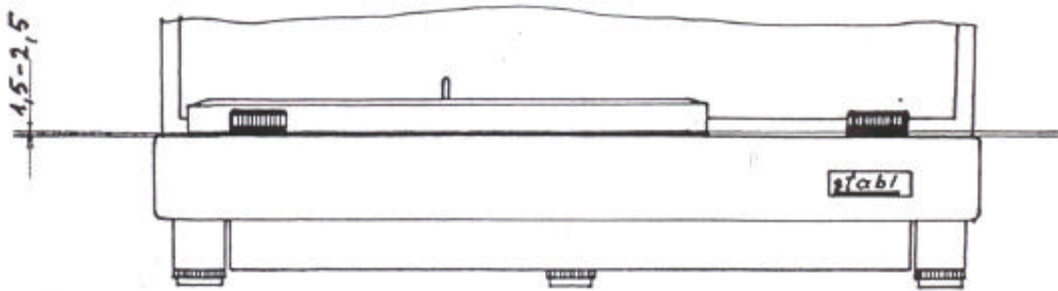

Fig. 6
- c) Platter will now be in a raised position and it must be lowered to give an approximate clearance of 2 mm (ie approximate thickness of belt) between bottom surface of platter and turntable top. If platter is too low, raise by screwing black knobs clockwise (Fig. 6)
- c) The weight of the tonearm will have altered the height of the platter from the turntable top. This should be readjusted using the four black knobs to regain the required height between platter and top plate of 2 - 3 mm. Ensure that the height is even around the circumference of the platter (Figs. 6 and 7)
(See Figs 6 and 7)